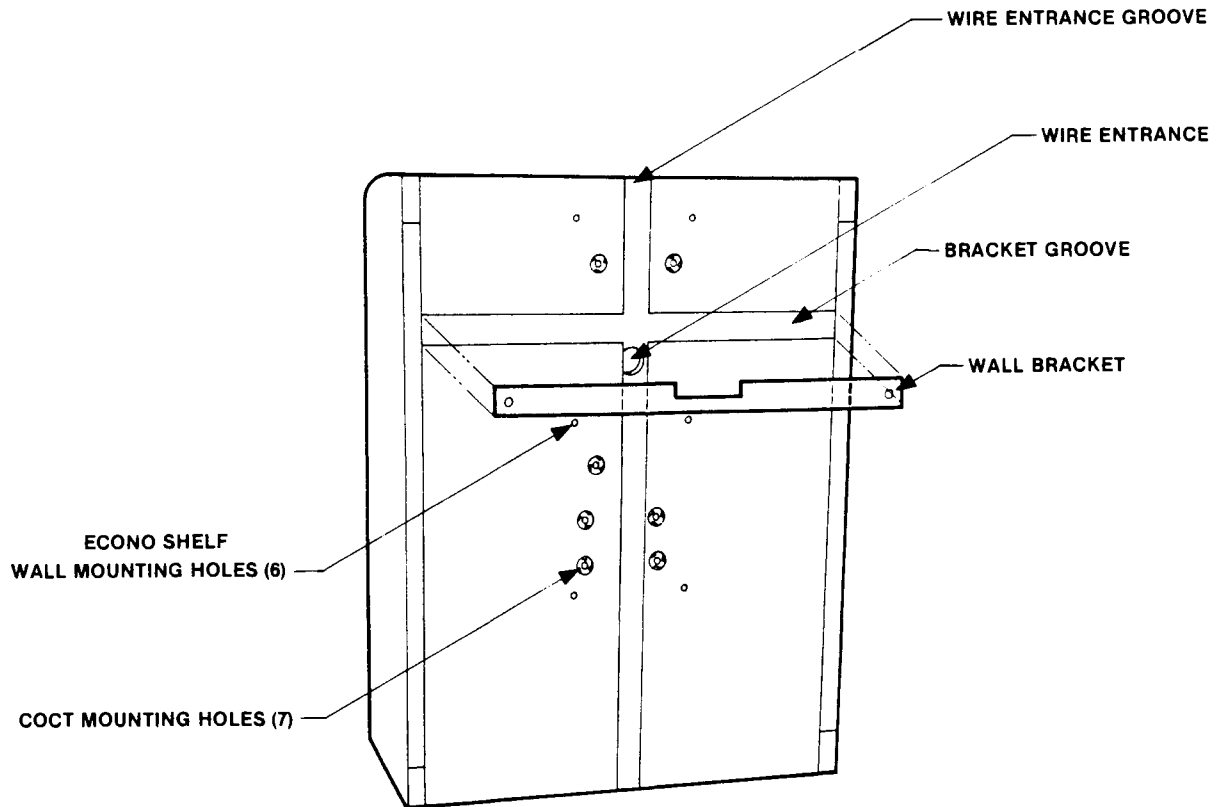

Figure 13 Mounting Econo Shelf
2. Install the mounting bracket to the wall (49 inches from the floor) using appropriate fasteners. The fasteners must be 1/4 inch in diameter. Refer to Figure 13.
4. Bring line cord, power cable, and ground wire through center hole in back panel (outside to inside), then hang the enclosure onto the wall bracket and attach enclosure to wall with six (6) 3/8 inch diameter flat head screws. Mounting holes are provided in the back panel of the shelf. Refer to Figure 13. (The Econo Shelf should be flush against the wall, and should not pinch any wiring.)
1. Install the mounting bracket to the wall (49 inches from the floor) using appropriate fasteners. The fasteners must be 1/4 inch in diameter. Refer to Figure 13.
2. Hang the enclosure onto the wall bracket, and attach the enclosure to wall with six (6) 3/8 inch diameter flat head screws. Mounting holes are provided in the back panel of the shelf. Refer to Figure 13. (The Econo Shelf should be flush against the wall, and should not pinch any wiring.)